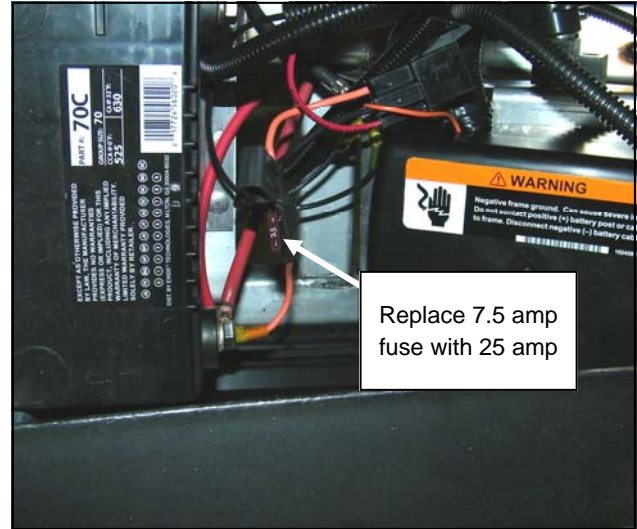

Fig. 1.6
- 1.6 Underneath the driver's seat (1500) or rear seat (1700), remove the 7.5 amp fuse from the cab wire harness and replace it with a 25 amp fuse included with the console kit. See figure 1.6.